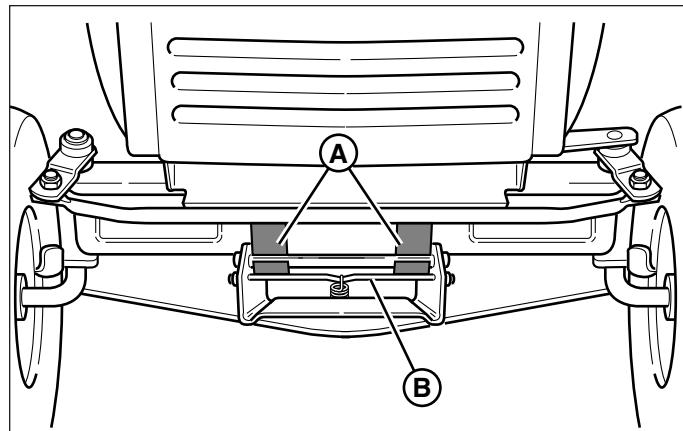

Figure 10. Mower Hitch
6. Turn wheels straight ahead. Pull back on spring-loaded lever (B, Figure 10) and lift mower hitch off of the tractor brackets.
5. See Figure 10. Turn wheels straight. Pull back on the spring-loaded lever (B) while lifting up on the mower hitch. Install mower hitch onto tractor hitch brackets (A). When properly installed, the spring-loaded lever should seat fully underneath the brackets.